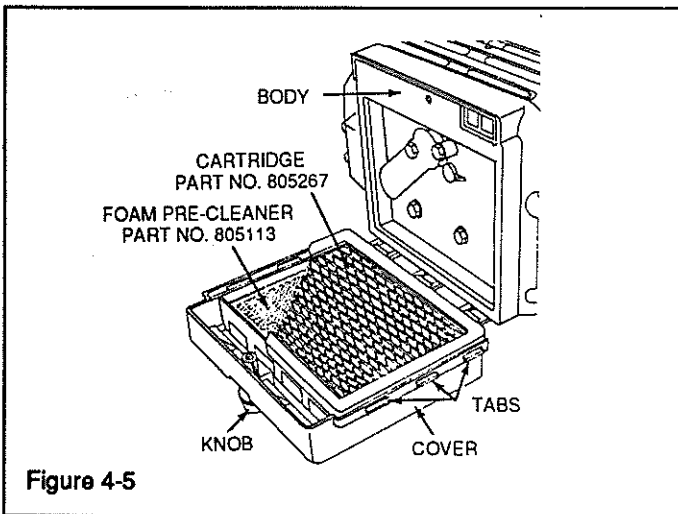

Figure 4-5
3. Square Dual Element: Figure 4-5.